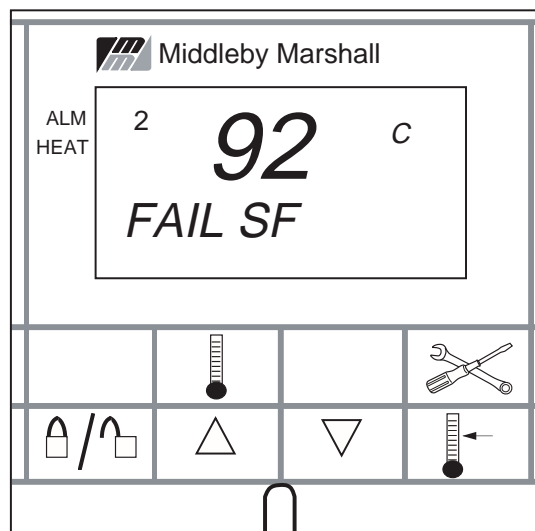

Figure 3-11
- c. FAILSF (Failsafe) See Figure 3-11.